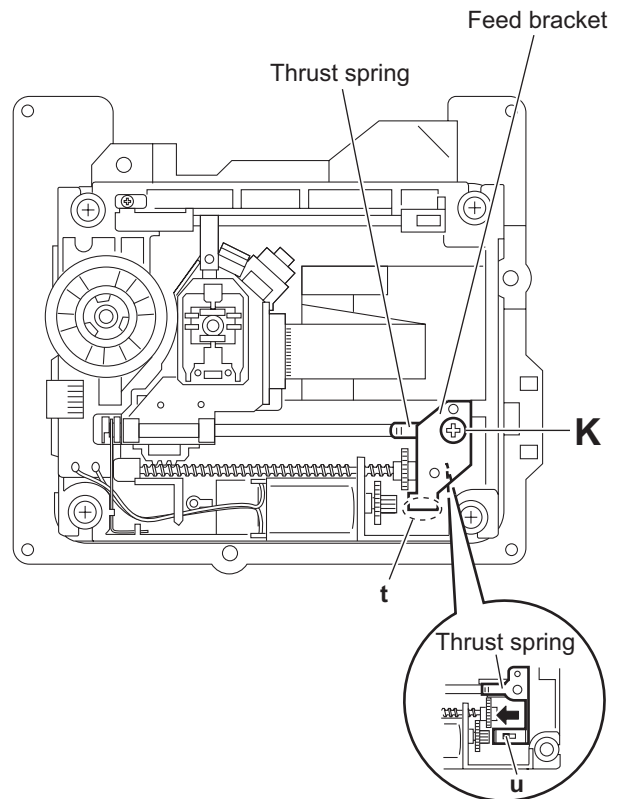

Fig.18
3.3.10 Removing the feed motor (See Figs.18 and 19)
- (1) From the top side of the DVD traverse mechanism assembly, remove the screw **K** attaching the feed bracket and remove the feed bracket from the sections **t**. (See Fig.18.)
- (2) Release the claw **u** of the thrust spring in the direction of the arrow and remove the thrust spring. (See Fig.18.)